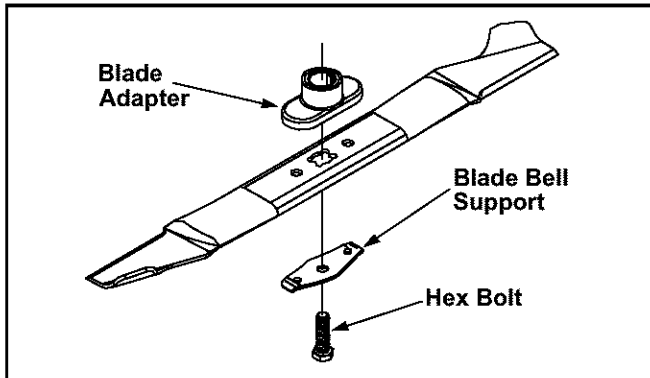

Figure 14
- Remove the bolt and the blade bell support which hold the blade and the blade adapter to the engine crankshaft. See Figure 14.